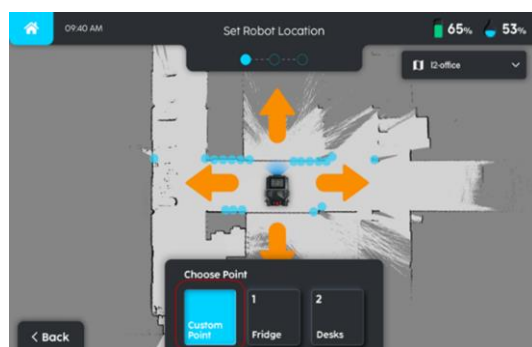

FIGURE 8-8
5. Select either 'Custom Point' or the other Location points saved in the map. Manually move the robot on the touchscreen such that the points and segments match the map (Fig. 8-8).